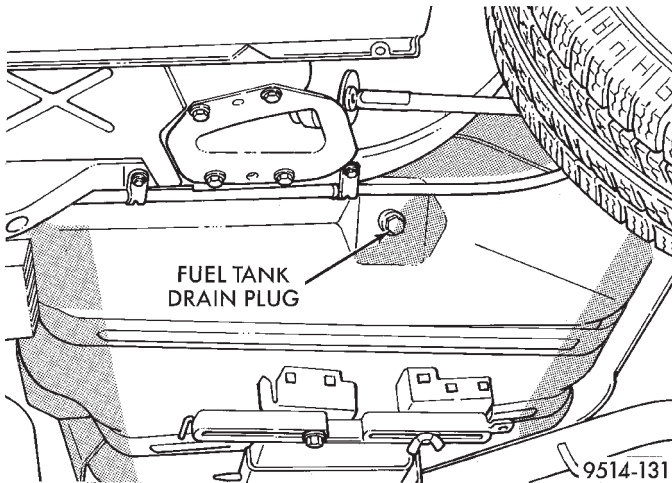

Fig. 38 Fuel Tank Drain Plug
(7) Remove drain plug and allow fuel to drain (Fig. 38).